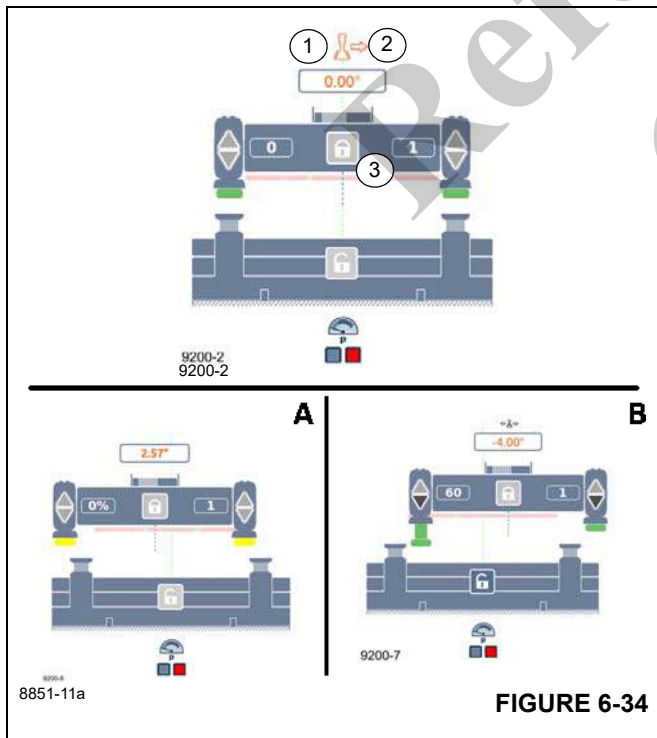

FIGURE 6-34
- Select and confirm the symbol (3), (Figure 6-34).
Refer to (Figure 6-34):